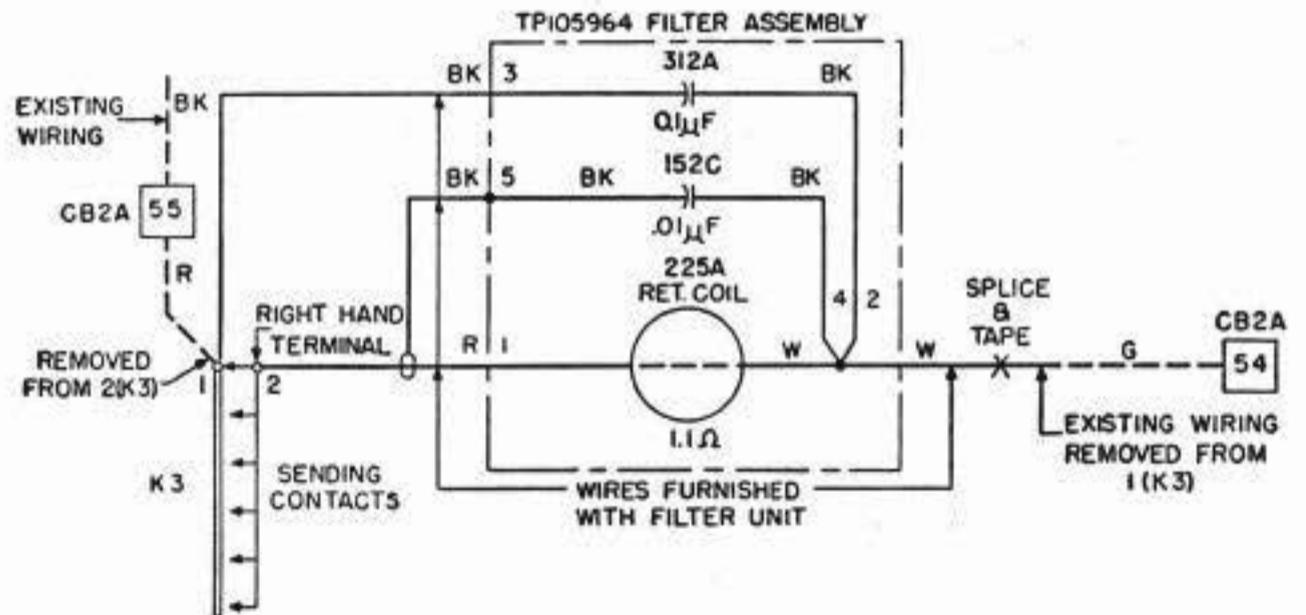

Fig. 2—(Without Line-Test Key) 15D, E, F and G Keyboards
2.06 For 15D, E, F and G Keyboards refer to Fig. 2 and connect the TP 105964 filter assembly as follows: